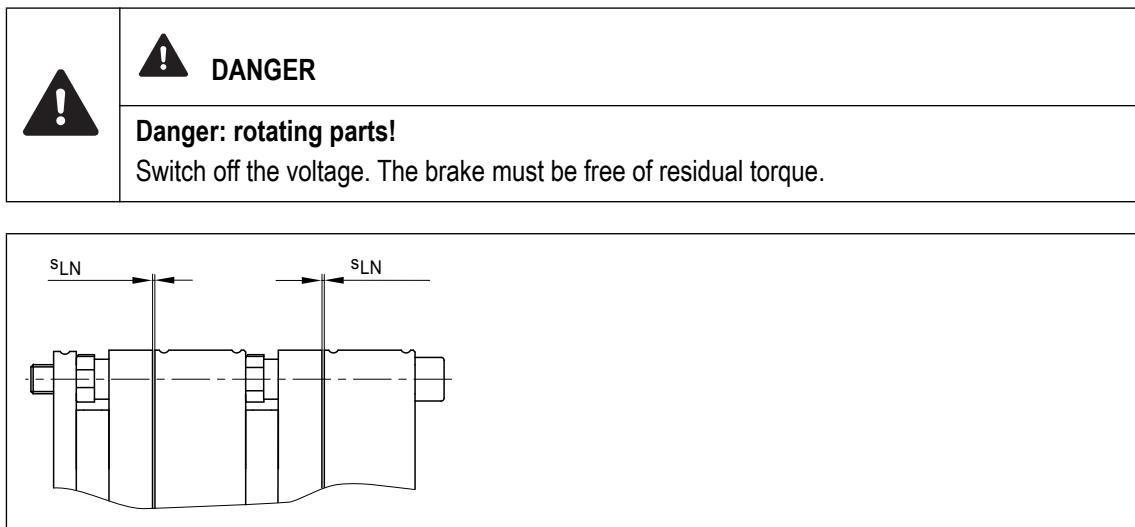

Fig. 11 Check the air gap
12. Check the air gap using a feeler gauge and correct it if necessary ( $s_{LN} = 0.4 +0.05 \text{ mm}$ ) according to Figures 11 and 12.